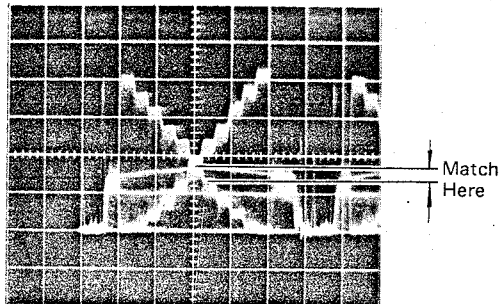

Fig. 6-4-33
- Adjust BLUE TRACKING-1 VR313 so that the B signal matches the YL signal in the 4th~5th step of gray scale waveform. (Fig. 6-4-33)